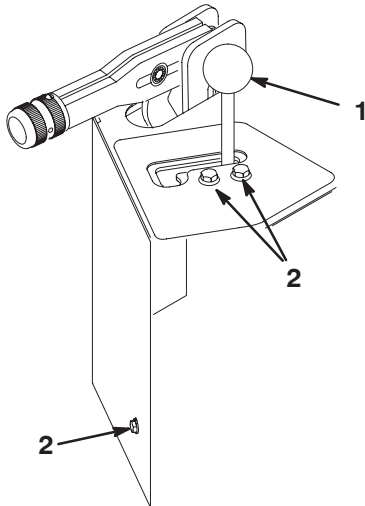

**Figure 27**
5. Loosen the (2) nuts securing brake interlock switch to brake sensor bracket (Fig. 27).
6. Adjust the brake switch until the air gap between the switch and the parking brake lever link is .060 inches  $\pm$  .030. (Fig. 27). Tighten the switch mounting nuts.